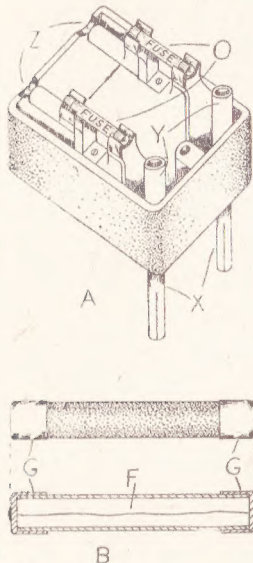

Fig. 1—A safety adaptor
One type of safety adaptor with the cover removed is indicated in view (A) Fig. 1, of the accompanying illustrations. Here we have standard 15 amp. plugs marked (X), which fit into the 15 amp.
The cartridge fuse is indicated quite clearly in view (B) Fig. 1, and a cross section of the cartridge shows the fuse wire marked (F) in position, connected to the soft metal ends (G). The fuse wire (F) can be renewed if found blown due to trouble on apparatus, and a simple way of doing the job is as follows.